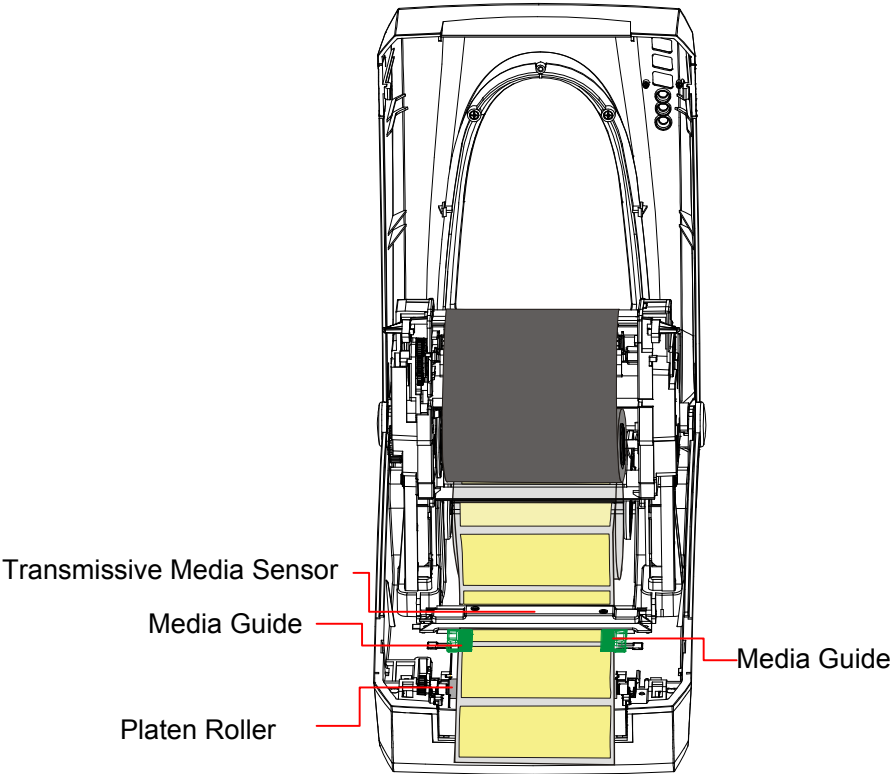

Figure 6-3
6. Route the media as shown in Figure 6-3.